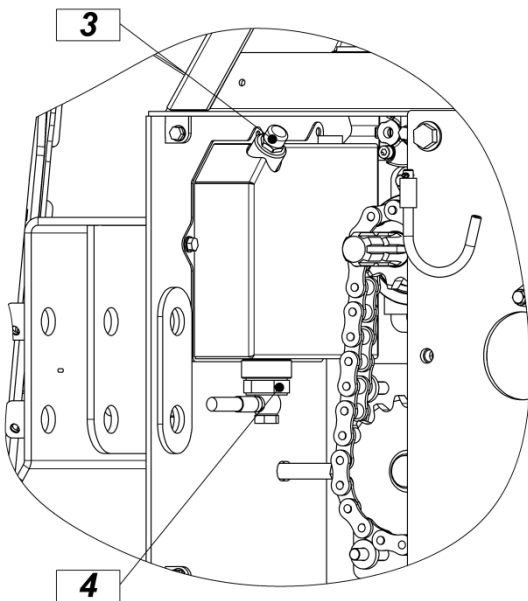
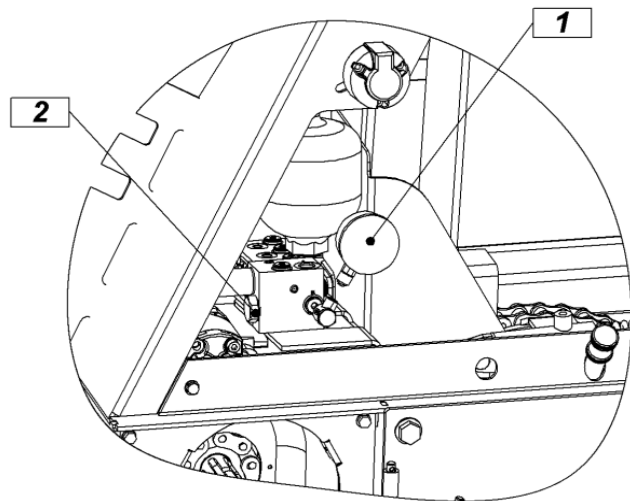

Figure 13
Figure 14
Oil level is controlled with a gauge on the tank cover (figure 13, pos. 3). This is the place, where oil is filled.
For any kind of intervention in the hydraulic system, you must release pressure in the system. This is achieved by pressing the left button on the control console (pos 1, figure 8), until the pressure drops to 0 bar (pos 1, figure 14).
Before starting, you must first remove both the triangular protection from the winch column and the PTO protection. Drain the oil from the reservoir (figure 13) at the pipe which is installed between the pump and tank. At the bottom of the reservoir you can find a filter that needs to be replaced every time you change the oil. It is also necessary to clean the high pressure filter (pos 2, figure 14).